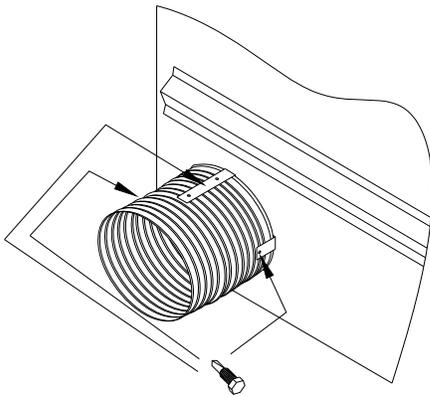

Figure 3 Installation de l'amorce d'entrée
6. Insert the intake air starter through the fireplace casing all the way to the bead. Use three of the self-tapping screws provided to attach the intake air starter to the three tabs with prepunched holes (see Figure 3). You can use either hole on the top tab.